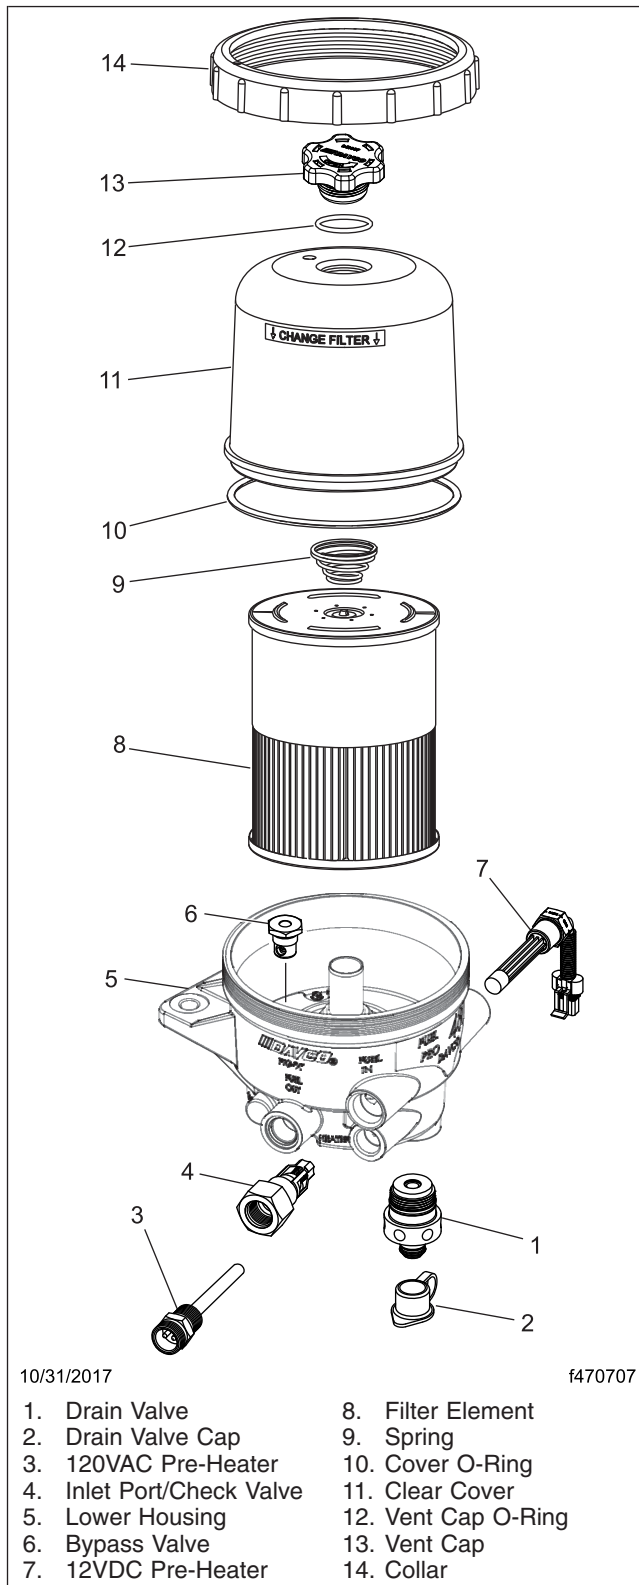

Fig. 7, DAVCO Fuel Pro 487
4. Remove the vent cap, shown in Fig. 7, to drain the fuel completely, then close the drain valve.
6. Remove the filter, cover O-ring, and vent cap O-ring. Dispose of them in an environmentally acceptable manner. See Fig. 7.